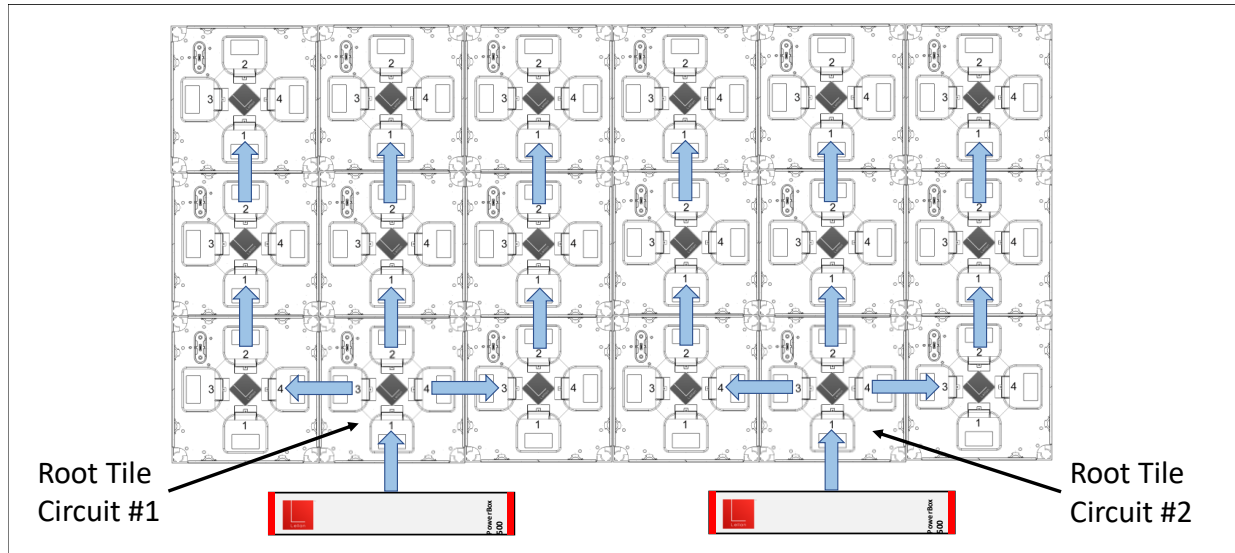
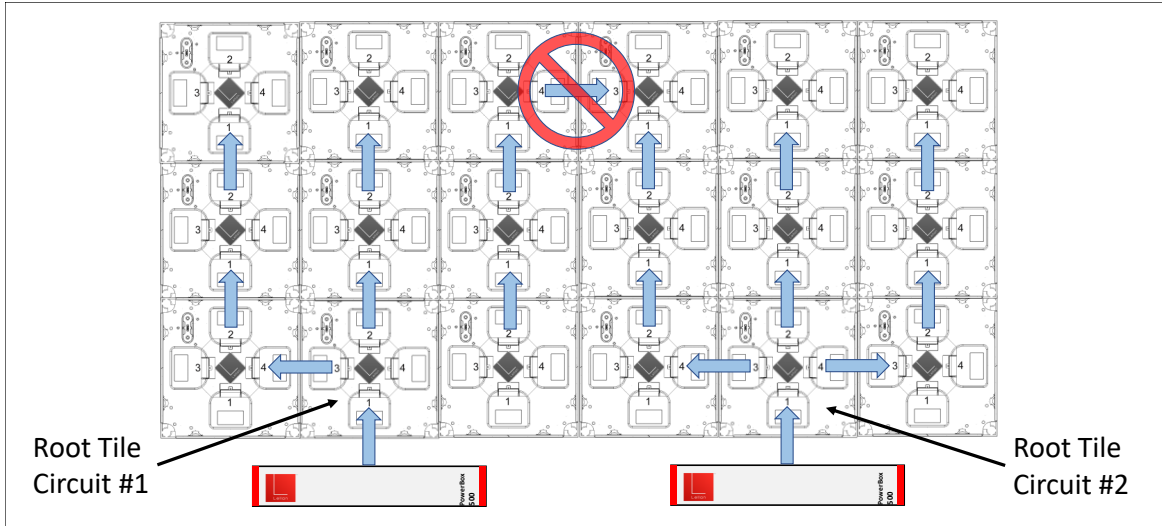
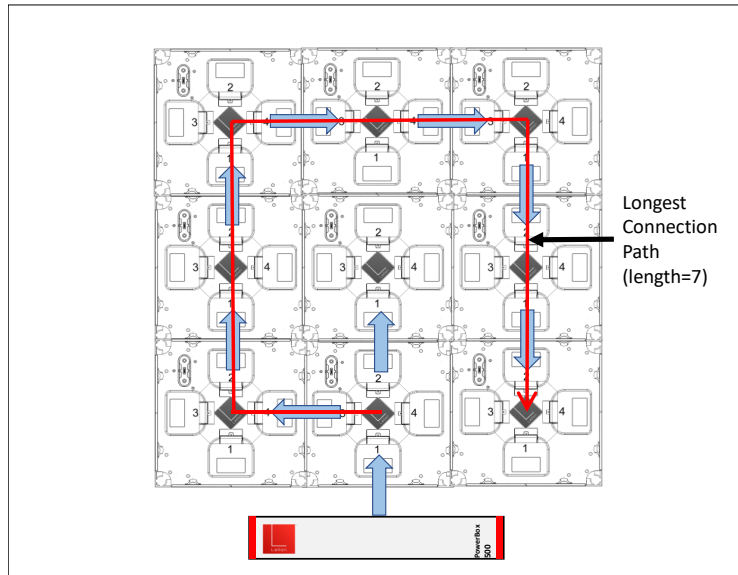
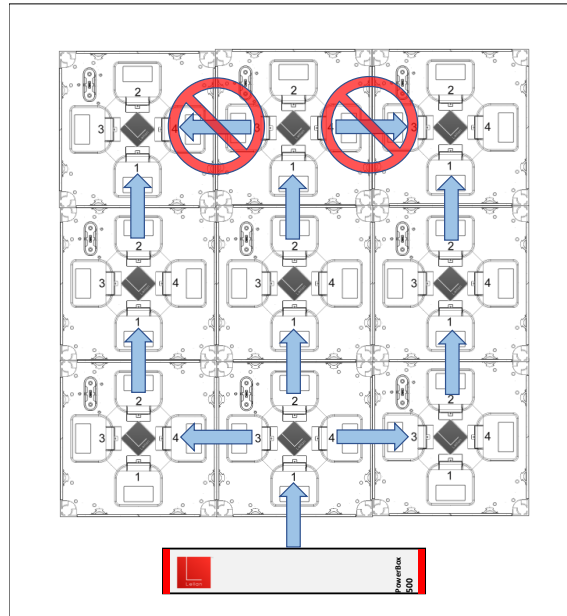

Figure 4-10: Example Cabling Plan: Continuous, Rectangular Shaped Digital Canvas with 2 Circuits
Figure 4-11: Erroneous Cable Plan, Cable Connection Across Circuits
Figure 4-12: 'Incorrect' Cabling Plan, Unnecessarily Long Connection Path
Figure 4-13: 'Incorrect' Cabling Plan, Two Tiles with More than One Incoming
1. Cabling is done on a Circuit-by-Circuit basis. All cable connections must be within one Circuit and under no circumstances can a cable cross between Circuits. (See Figure 4-10 and Figure 4-11)
SmartTiles can have more than one incoming connection (see Figure 4-13), but there is no benefit to this. Only one of the connections will be used. And the DigitalCanvas performance can be negatively affected by any unused connections.
For best performance, minimize the lengths of the connection path from the Root Tile to each of the other SmartTiles. The longest connection path is the most important in determining the DigitalCanvas performance. (See Figure 4-12)
Figure 4-10 shows a well-formed cabling plan for a continuous, rectangular DigitalCanvas with 2 Circuits of 9 Tiles each. Note that this Canvas does not really require 2 Circuits since there are only 18 Tiles total. But there is no issue (except for cost, of course) with under-populating Circuits.
Figure 4-11 shows the same DigitalCanvas as Figure 4-10, except for a single cable added between the two middle Tiles in the top row. This cable creates a connection between the two Circuits – which violates the first rule in Section 0. In a DigitalCanvas cabled as in this figure, one or both PowerBoxes will fail almost immediately.
Figure 4-12 shows a DigitalCanvas that has the same layout as one of the Circuits from Figure 4-10, but has a very different cabling plan. This cabling plan violates Rule #7 from Section 0. Its longest connection path (from the Root to the Tile in the lower right corner) is 7 cables in length. In contrast, the longest connection path (from the Root to the Tiles on the upper corners of each Circuit) in Figure 4-10 is 3 cables.
Although the DigitalCanvas in Figure 4-12 will function fine, its performance will be significantly less than if it were cabled using the plan from Figure 4-10.
Figure 4-13 shows a DigitalCanvas with the same layout and cabling plan as one of the Circuits in Figure 4-10, but with two additional cables added in the top row. These two added cables violate Rule #5 in Section 0 since the two upper-corner Tiles now have two incoming connections.
The DigitalCanvas shown in Figure 4-13 will function as expected but its overall performance will be less than if the two added cables were left out. (Alternatively, the two cables leading into the two upper-